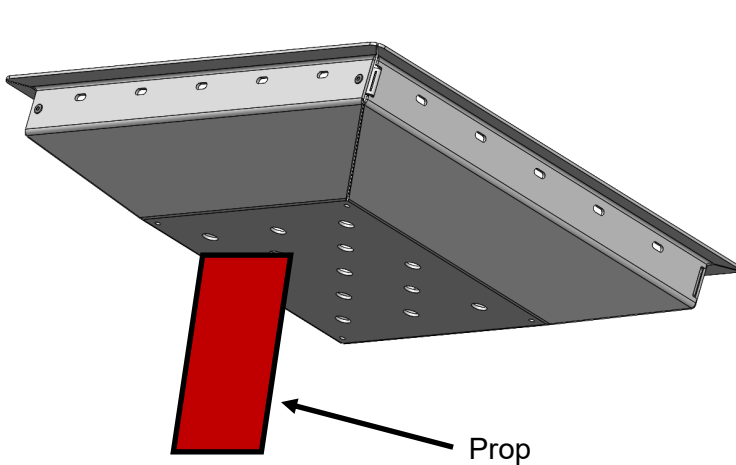

Fig. 1
- Next, taking the main body of the terrace fire pit, place on a level surface and prop up the base (See Fig. 1.)